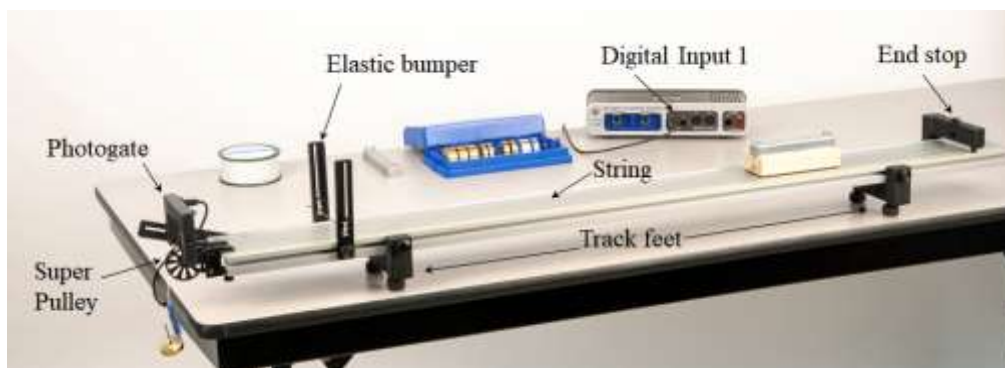

Figure 1: Measuring Coefficients of Friction
1. Attach the feet to the bottom side of the track, as shown in Figure 1, and level the track.
2. On the top side of the track, attach an end stop at one end, and the elastic bumper (made of two photogate brackets and the elastic band) about 15 cm from the opposite end of the track, as shown in Figure 1.